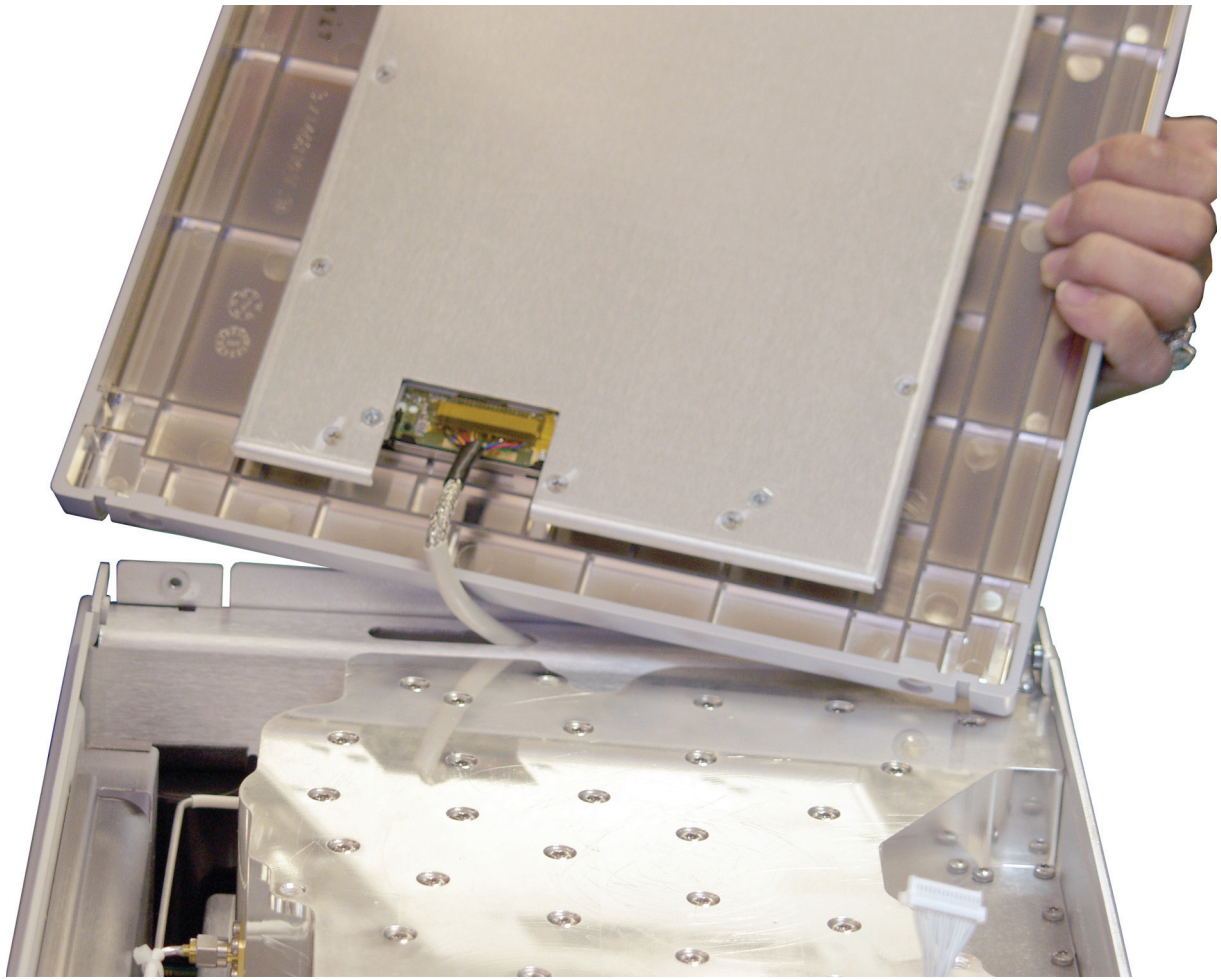

Figure 5-18. Front Panel LCD Cable Connection
9. Continue lifting the front panel and peel the Mylar tape off the LCD cable connector. Disconnect the LCD display cable from the front panel (Figure 5-18).